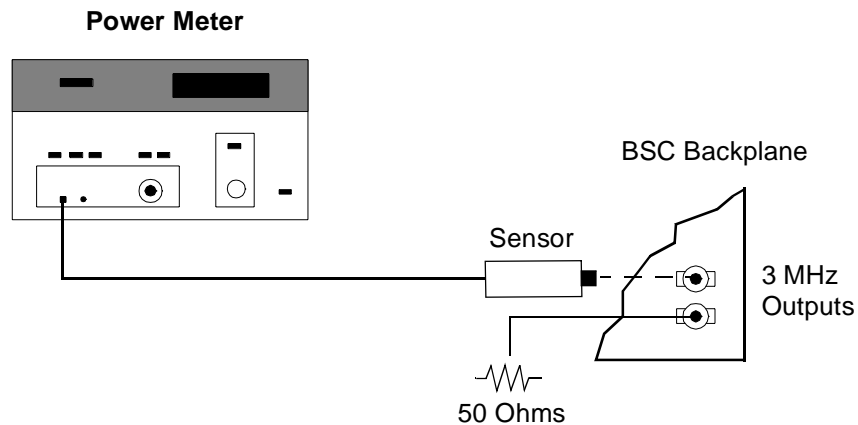

Figure 12
4. See *figure 12*. Connect the power meter sensor to an adapter that is attached to the URDM/RDM Phono #2 jack.